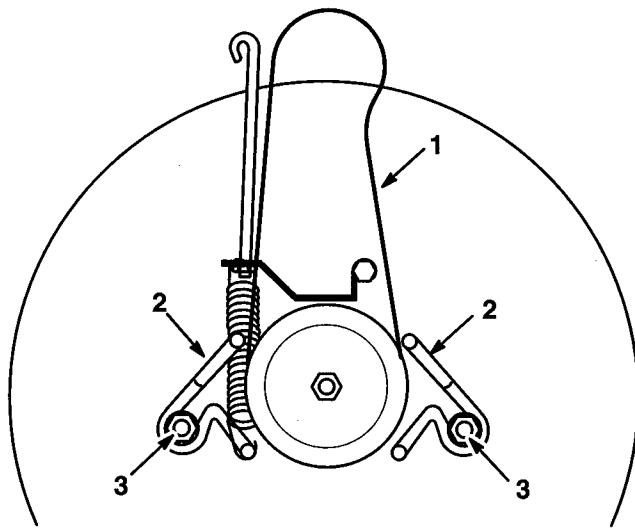

Figure 43
2. Loosen the belt guide mounting bolts and move belt guides away from the pulley (Fig. 43).
1. Install the new belt around the blade pulley and inside both belt guides (Fig. 43).
2. Adjust the belt guides so they are no more than $1/8"$ away from the pulley and tighten mounting bolts (Fig. 43).